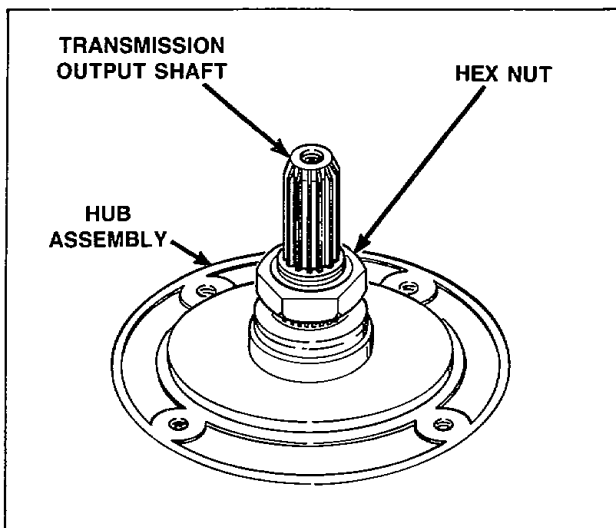

Figure 38
- j. Remove the large hex nut, *Figure 38*, using No. 237P4 Hex Wrench.
NOTE: When installing lint filter, it is necessary to start the first fastener in the round hole, Figure 38. Place the remaining fasteners in their respective holes.